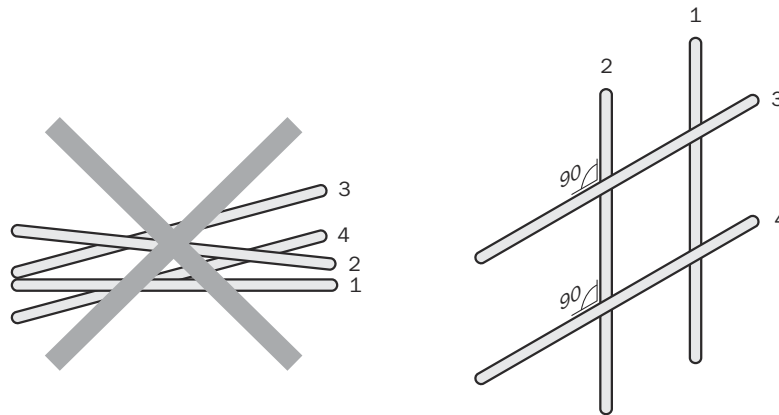

Figure 11: Cross cables at right angles
- ▶ Cables in groups 1, 2 and 3, 4 must be crossed at right angles, see figure 11.